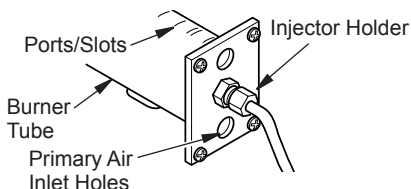

Figure 34 - Injector Holder On Outlet Burner Tube
2. Inspect burner, pilot and primary air inlet holes on injector holder for dust and dirt (see Figure 34).